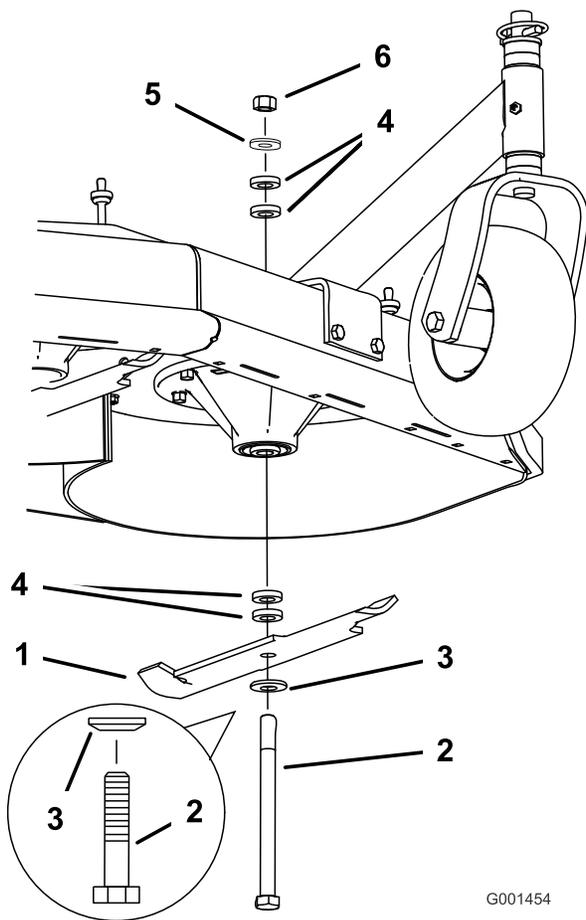

Figure 56
2. Remove the nut, blade bolt, curved washer, blade, spacers, and thin washer from the spindle (Figure 56).
1. Install the curved washer and then the blade onto the bolt. Select the proper number of spacer(s) for the height of cut, and slide the bolt into the spindle (Figure 56).